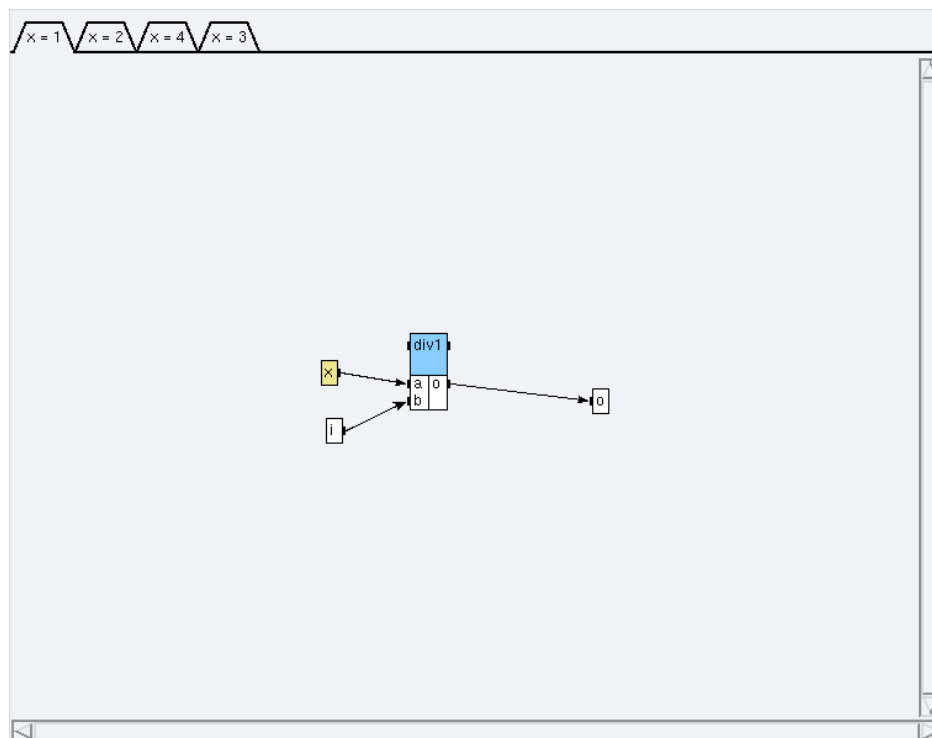

Figure 5.2: Condition $x=1$
- * click on the condition `x=1` (*cf.* figure 5.2) and create a reference `div1<1>` to the definition `int/Arit_div`,